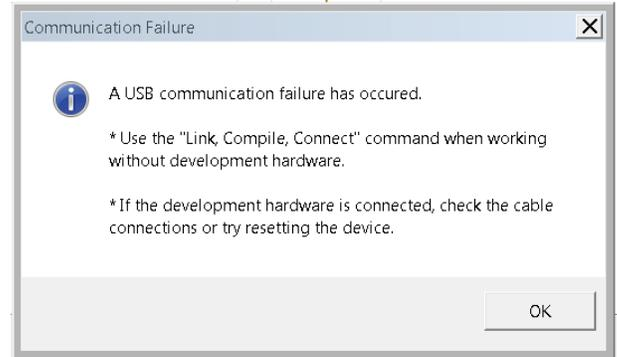

Figure 4. PC Communication Failure Message
13. If the I²C communication failure message appears, as shown in Figure 4, the board is not set up correctly.